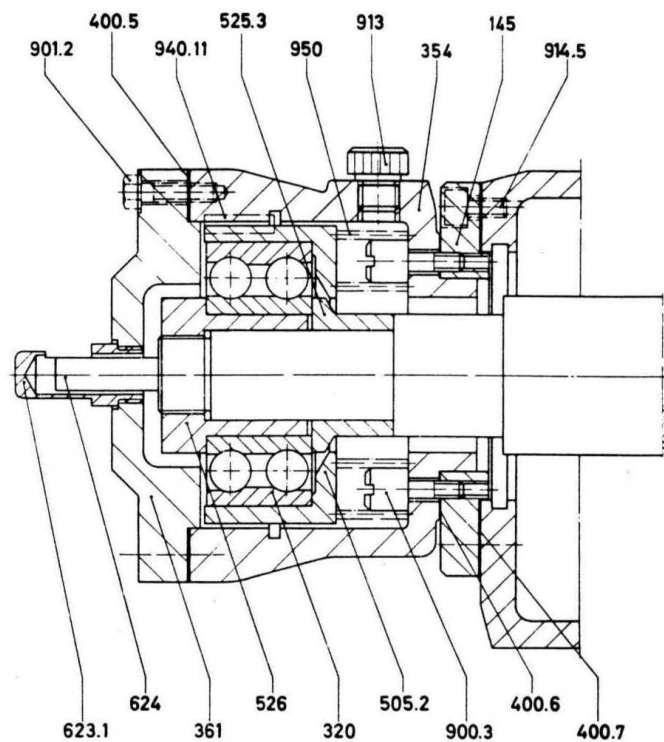

Figure 40 – Lift-off device: anti-friction bearings
6. Mount the rotor position indicator (623.1) plus actuating pin (624) on the discharge end.
7. Check the markings on the rotor position indicator with the balance disc (601) in contact with the balance counter disc (602), if necessary make a new marking (see section 9.1.1 – Rotor position indicator).
8. If the pump is supplied with lift-off device in the bearing casing according to figures 40, 41A and 41B and follow sequence of items 5 and 6 above.